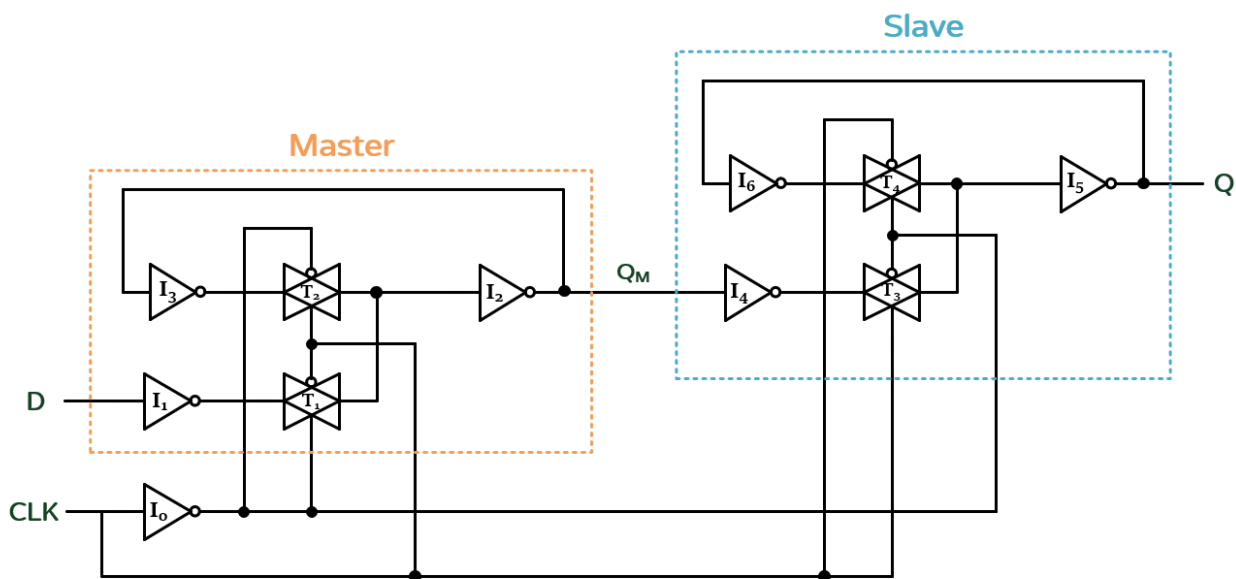
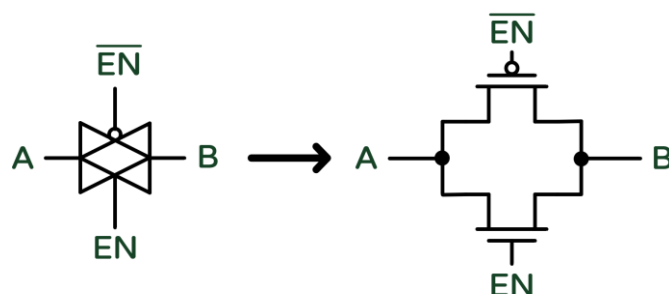

Fig. 2. TG-based positive-ET DFF
Fig. 3. Circuit implementation of TG
2. (14%) Another type of circuit implementation of positive-ET DFFs is based on transmission gates (TGs), as shown in Fig. 2. The circuit implementation of TG is shown in Fig. 3.
The reason is _____. (It's better to describe with the help of Fig. 2.)